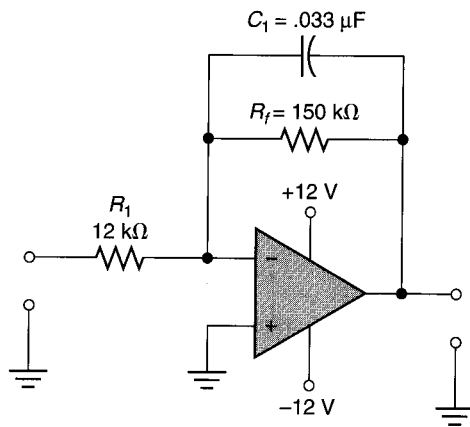

FIGURE 16.40
9. Determine the cutoff frequency of the circuit shown in Figure 16.40.
10. Determine the frequency at which the circuit shown in Figure 16.40 will start to lose its linear output characteristics.